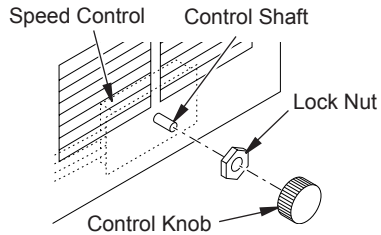

Figure 4 - Attaching Speed Control
- Place control knob provided on plastic control shaft of speed control (see Figure 4).
- Locate the plastic hole plug installed in the 3/8" diameter opening in the lower right side of the firebox front panel (see Figure 4). Remove the plastic plug and discard.
- Place speed control against inner wall of front panel, pushing the plastic control shaft forward through the opening (see Figure 4).
- While supporting speed control, secure control shaft with lock nut by pushing and turning lock nut with pliers clockwise until it is tight against front panel. Place control knob provided on shaft (see Figure 4).